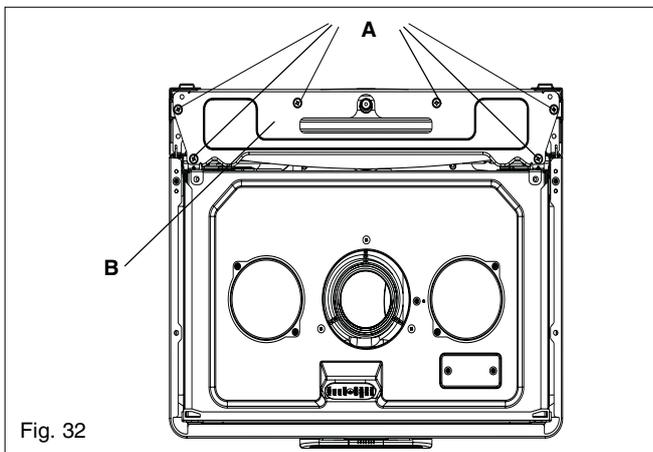

Fig. 32
6.18.1 EXPANSION VESSEL REMOVAL (with sufficient clearance above, fig. 32)